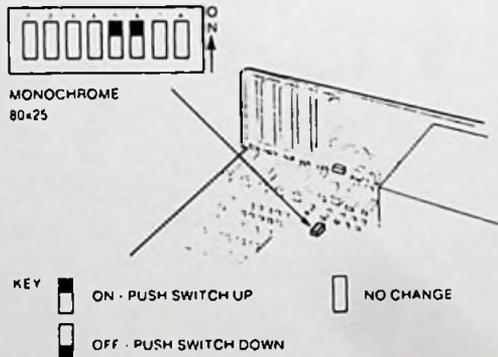

Figure 9A. SW1 in the IBM PC and PC XT
- a. In the IBM PC and XT, locate SW1 on the floor of your system, behind the left drive bank. Set switches 5 and 6 to the ON position for enhanced video display. Please see Figure 9A.